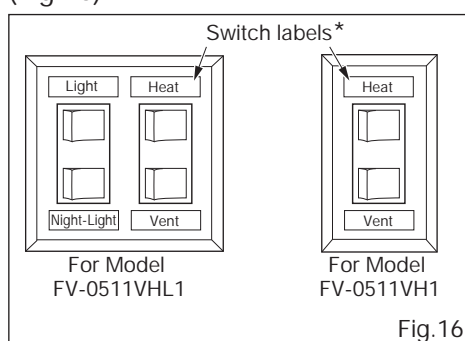

Fig.16
Please operate as shown in the following after installation. (Fig.16)
*Attach switch labels to the wall switch as shown above. (Fig.16)